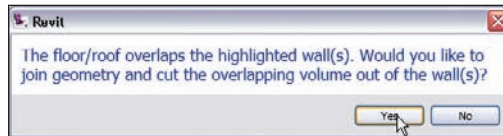

FIGURE 6.28 Click Yes if you want to cut overlapping volumes out of the exterior walls.
7. The next message pertains to the exterior walls. Revit asks if you would like to cut the section out of the walls where the slab is intersecting. In this case you do, so click Yes in the message box, as shown in Figure 6.28.